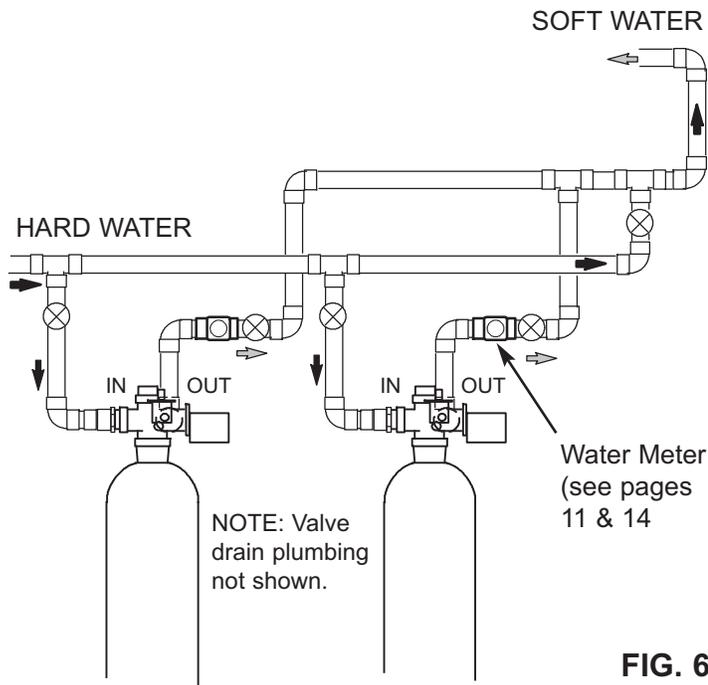

FIG. 6
- For multiple tank units, plumb a reverse return header (see Figure 6) to assure equal flows in each tank.
To promote equal water flow, make the inlet and outlet plumbing configuration to each valve as identical as possible (see Figure 6). Use the same fittings and pipe lengths for the connection of each unit, or use a reverse return header.